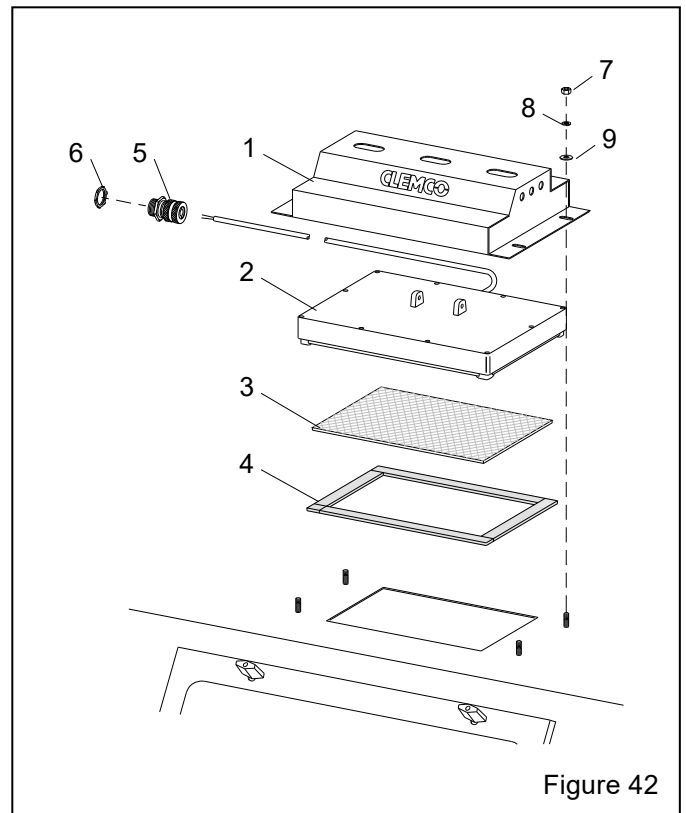

Figure 42
**9.2 LED Light Assembly – Figure 42**